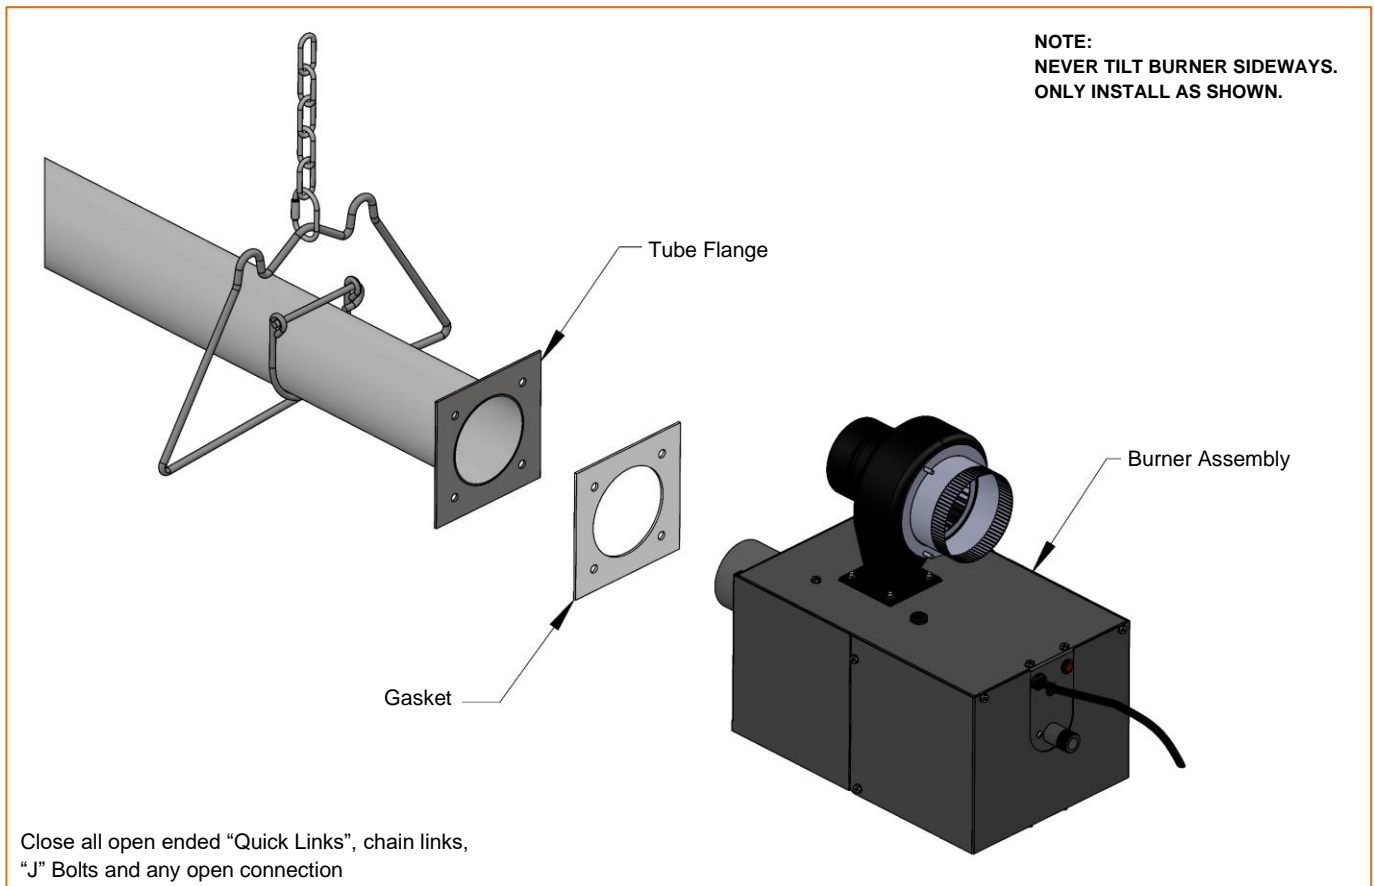

Figure 10: Burner Gasket Installation
- Locate the burner gasket provided, bolt the burner in place on the tube flange with provided hardware. **Burner must never be installed in a tilted position.** The sense electrode of the burner cup should be in the 12 o'clock position (Figure 10)